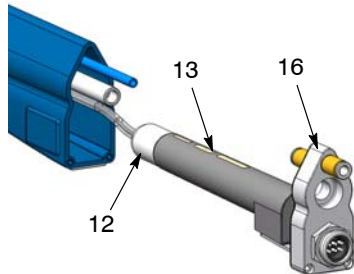

Figure 28 Removing the Multiplier from the Housing
2. See Figure 28. Pull the heat sink (16), with multiplier (13) attached, out of the housing. Continue pulling until you can grasp the multiplier nut (12).>>> 6 <<<